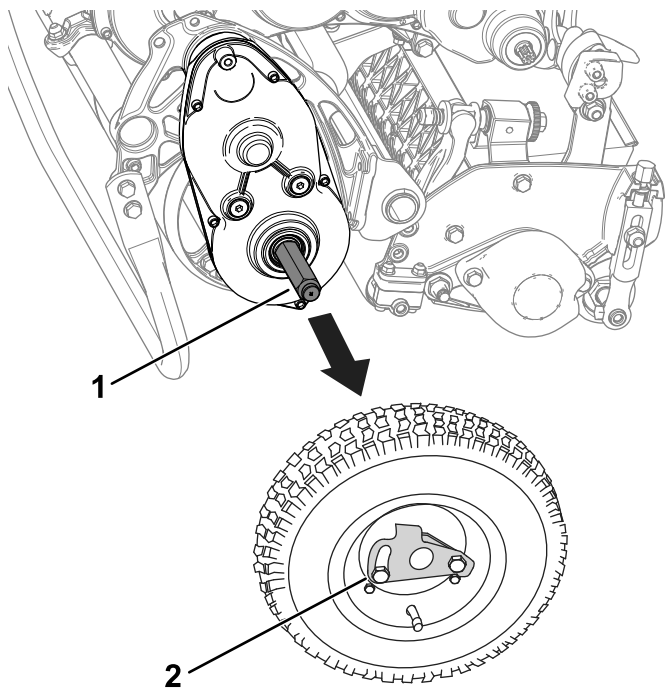

Figure 16
3. Remove the transport wheels by pushing the wheel-locking clips out of the axles (Figure 16).